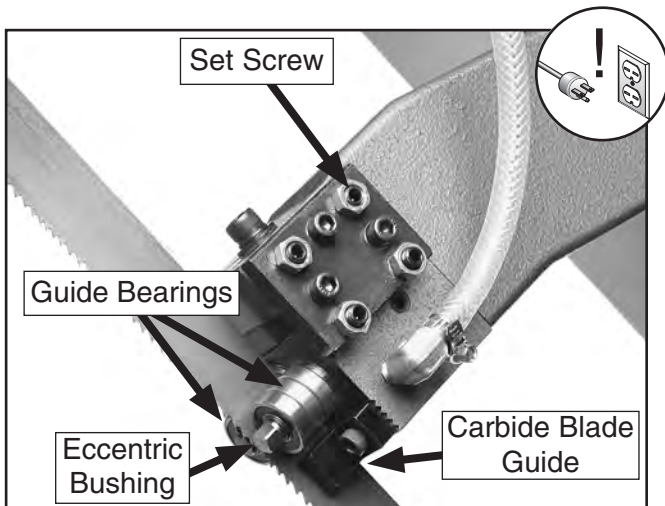

Figure 44. More blade guide adjustments.
1. Loosen the set screw shown in **Figure 44** to allow the eccentric bushing to turn.